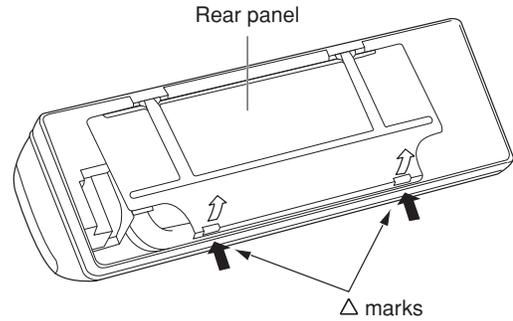

Fig. 7
- (2) Press the 2  $\Delta$  marks on the frame cover and disengage the stationary tabs from the frame. (Fig. 7)
- (3) Remove the rear panel.